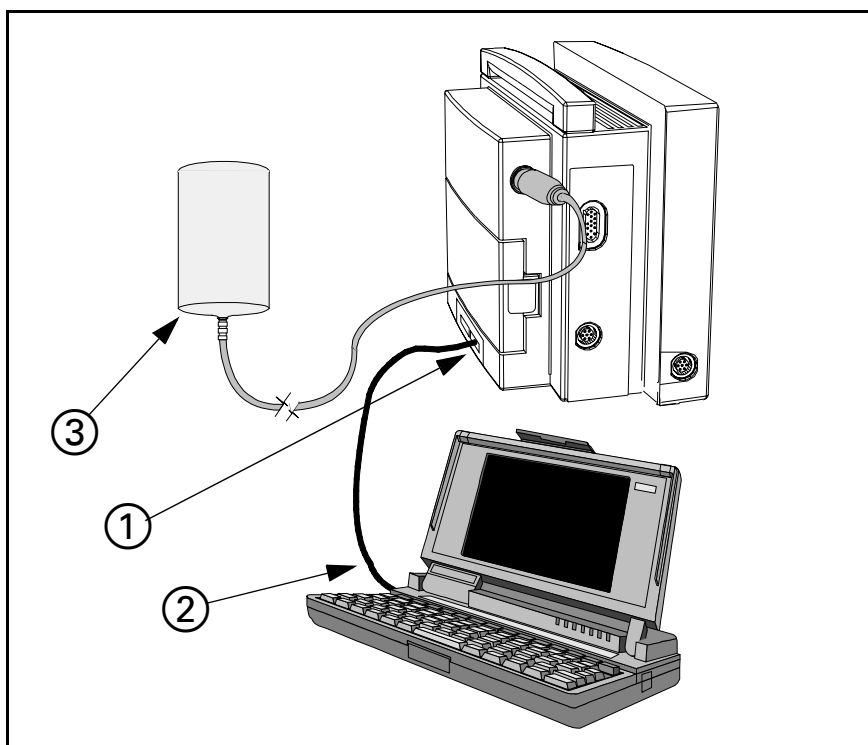

Figure 4-7 NBP Characterization Setup
1. Install Interface Plate (① in Figure 4-7), Art. No. 33 76 493 E530U, on monitor.
2. Connect diagnostic cable, CBL DIAG UART 47 14 346 E530U (② in Figure 4-7), between serial port on PC/laptop and X7 on interface plate. If PC/laptop is equipped with Windows 3.1, go to Section 3.3.2. If PC/laptop is equipped with Windows 95, go to Section 3.3.3.
5. Connect half-liter standard volume to monitor ((3) in Figure 4-7) and follow instructions on terminal display.